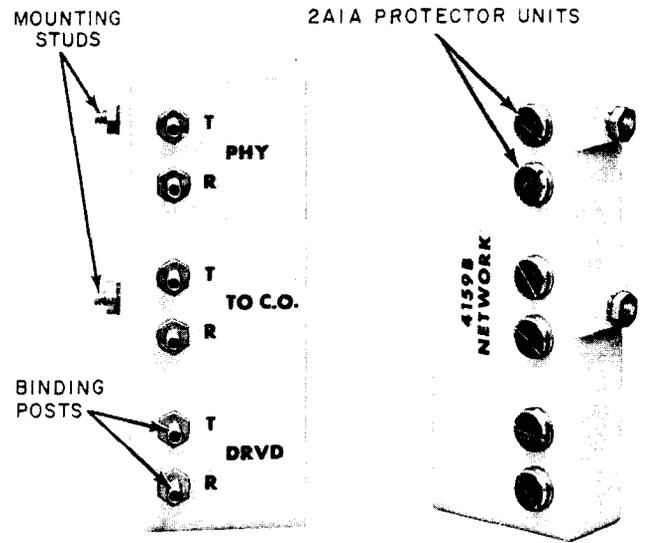

Fig. 1—♦4159B Network♦
2.01 The 4159B Network consists of the encapsulated circuitry, six binding posts for wire terminations, and six 2A1A Protector Units. The two mounting studs are internally connected to the protectors to facilitate grounding (Fig. 1).